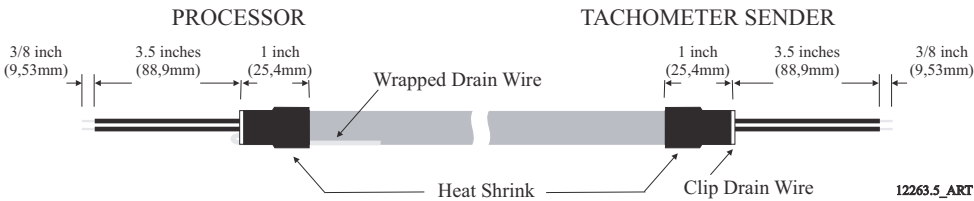
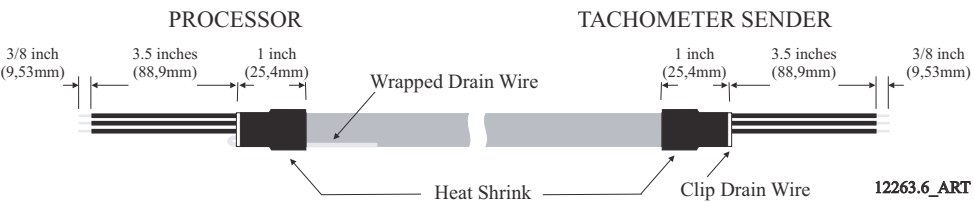

Figure 4-18: AC Type Tachometer Cable
Figure 4-19: Open Collector Tachometer Cable
- G On the Port end of the cable, bend the drain wire back and tuck it under the shrink tubing so that the drain wire end is exposed past the shrink tubing. (Refer to Figure 4-18: AC Type Tachometer Cable)
- H At the Processor side, bend the drain wire back and tuck it under the shrink tubing so that the grain wire end is exposed past the shrink tubing. (Refer to Figure 4-18: AC Type Tachometer Cable and Figure 4-19: Open Collector Tachometer Cable).